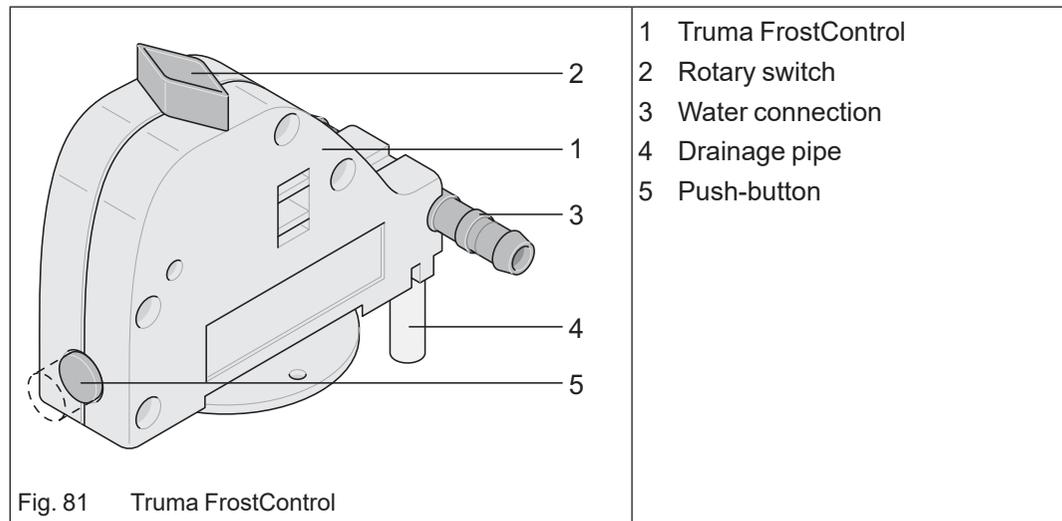

Fig. 81 Truma FrostControl
The Truma FrostControl (Fig. 81/1) is located near the heating system.
Truma FrostControl is an overpressure relief valve and drain valve with frost protection function which is operated without using electrical power. When there is a risk of frost, it automatically drains the contents of the hot water boiler through a drainage pipe (Fig. 81/4). In case of excessive pressure inside the heating system, the device automatically equalises the pressure.
- ➔ Check if the rotary switch (Fig. 81/2) is set to "Operation" (parallel to the water connection) (Fig. 81/3) and is engaged.
It can only be closed by hand (pressed shut) with the push button (Fig. 81/5) and the hot water boiler can only be filled if the temperature on the Truma FrostControl is above approx. 7 °C.
- ➔ Switch the heating on and set the rotary switch of the Truma FrostControl (Fig. 81/1) to "Operation". The rotary switch must engage.
The push-button (Fig. 81/5) springs out and the water stored in the vehicle drains out through the drainage pipe (Fig. 81/4).
- ➔ Turn the rotary switch (Fig. 81/2) by 180° until it engages.